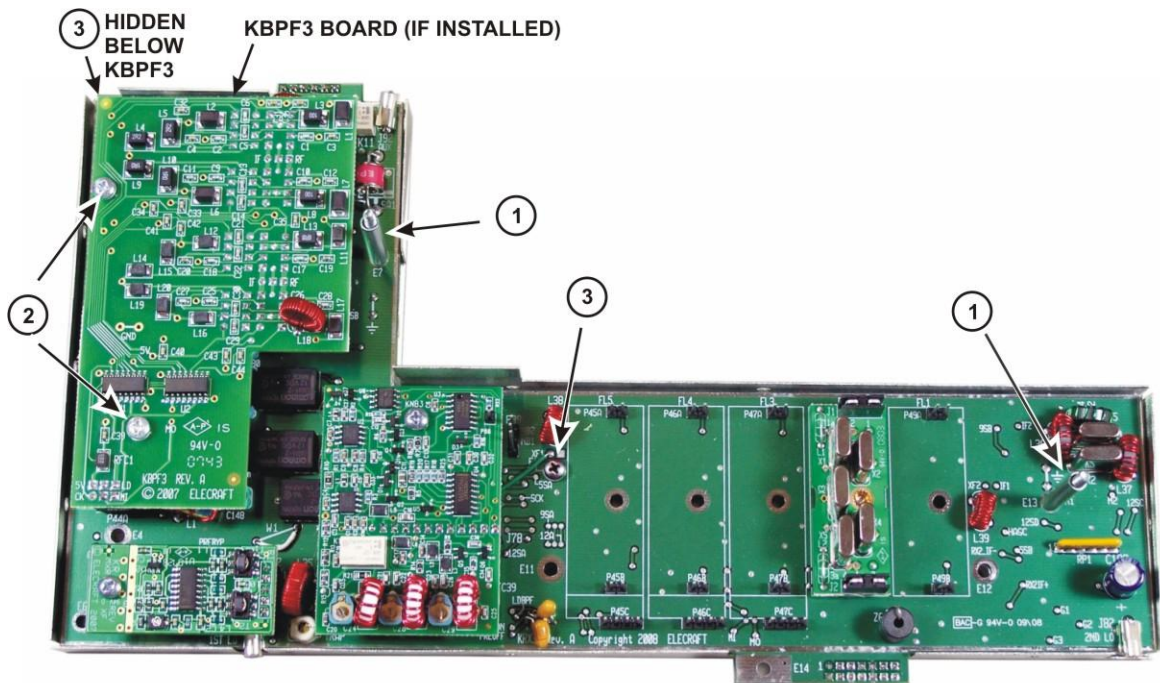

Figure A-5. Removing the RF Board from the Enclosure.
- Remove the RF board from the lower half of the enclosure as follows (see Figure A-5):
- Remove the two sleeves (1) from the long screws.
- If the KBPF3 option is installed, remove the two screws (2) and unplug it from the RF board underneath.
- Remove the two screws (3) securing the KRX3A RF board to the bottom half of the enclosure. These screws thread into bushings attached to the enclosure with screws. If a screw seems to turn without loosening, hold the corresponding screw on the bottom of the enclosure so it cannot turn.
- b) You may leave unoccupied filter positions as long as the order in a) above is followed. This is handy if you plan to add more filters later. Note that only a single filter is installed on the board shown in Figure A-5, leaving space for a wider bandwidth filter to be added in FL1 position and narrower filters to be added to FL3 through FL5 later if desired. More information and examples for planning your filters is included in Appendix A of your K3S or K3 Owner's manual.
Place the KRX3A RF board in the bottom shield so that the long screws extend through holes shown in Figure A-5. Press the circuit board down against the standoffs. The board may “snap” into position as the small bumps along the edges of the board slip into the holes in the sides of the shield. When properly positioned, the board will be against the standoffs in the bottom half of the enclosure. If needed, press down gently on the board near the long screws to ensure it is not caught on the threads.
Secure the KRX3A main circuit board to the short standoffs at locations ③ in Figure A-5 with the 4-40 3/16" (4.8 mm) black pan head screws and #4 *split* lock washers you removed earlier. Do not use interior tooth lock washers.
If you removed the KBPF3 board, replace it. Be sure the three connectors are aligned so all the pins engage. The connectors are visible from the sides. Secure the board at locations ② in Figure A-5. Use the 4-40, 1/4" (6.4 mm) pan head screws and *split* lock washers you removed earlier. Do not use interior tooth lock washers.
Replace the unthreaded sleeves over each of the long screws so they rest against the top of the circuit board (locations ① in Figure A-5), then place the top shield over the assembly and adjust its position so the edge of the top fits inside the bottom and rests against the KRX3A main board on all sides. The long screws will pass through holes in the top cover. Secure the top with the knurled nuts finger-tightened only enough to hold the cover in place so it isn't loose. Lock washers are not used under the knurled nuts.